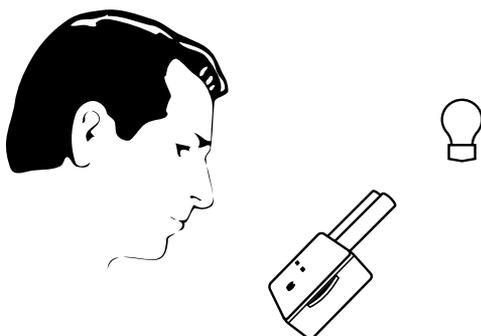

Figure 3
8. Hold the comparator so that light shines down through the tubes from the top if the adapter is installed or from the back if the adapter is not installed. See Figure 3. Rotate the disc to match the colors in the color matching windows. Read the mg/L phenols from the scale window. If measuring without the Long Path Viewing Adapter, multiply the reading by five.